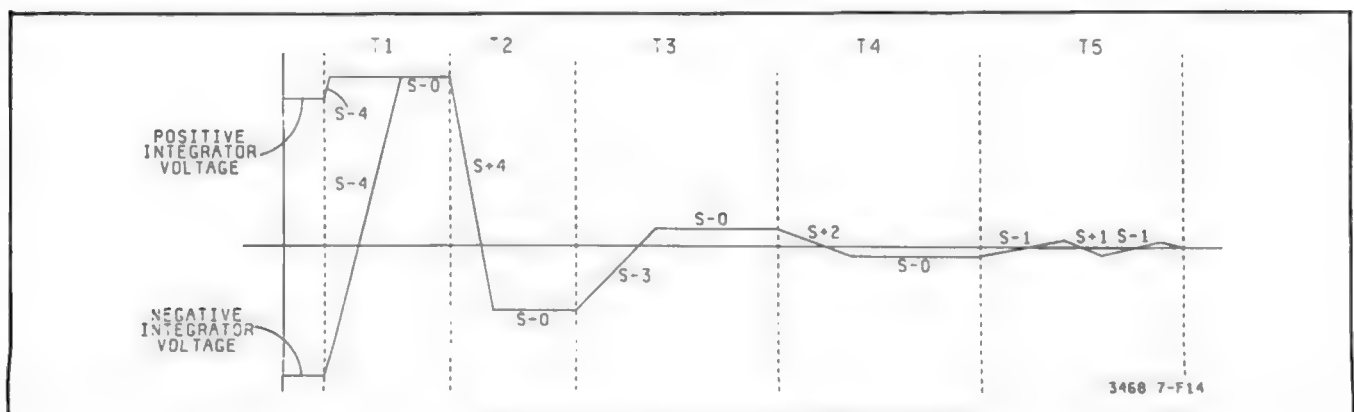

Figure 7-F-14. Rundown Slopes
b. If it has been determined that the remaining voltage on the integrator is negative, S-4 currents are applied a number of times until zero crossing occurs (CMP output changes state). Since the S-4 currents can be applied (during time T1 in Figure 7-F-14) to a maximum of three ramps, the resultant output slope S-4 will normally cross zero with three or less S-4 currents applied. After zero crossing occurs, the current is removed with 15 ALE cycles (i.e. one half-ramp) after the S-4 slope crosses zero. If (after the current is removed) time T1 is not completed, a no current condition remains (i.e. an S-0 slope) for the rest of time T1. No current is applied to keep the rundown time constant.